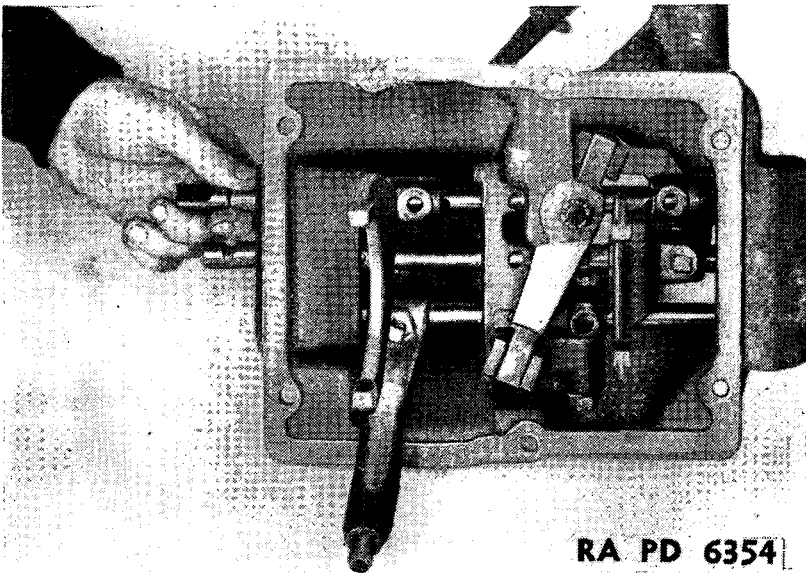

FIGURE 91.—Transmission reverse shift rod removal.
(10) Remove first and reverse speed relay lever— $\frac{5}{8}$ -inch box wrench, $\frac{7}{8}$ -inch open end wrench, pliers. Remove cotter pin (BFAX1DF), nut (A214814), and screw (A214811), and remove relay lever (B184261) (fig. 91).